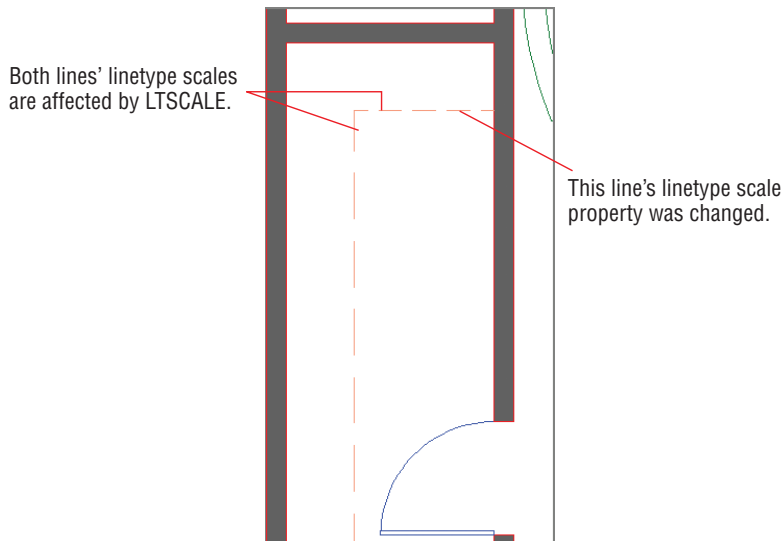

FIGURE 6.23 Scaling the linetype of an individual object
- Press Esc to deselect the horizontal shelf line. The breaks in the horizontal line are half as large as those in the vertical segment (see Figure 6.23). Close the Properties panel.